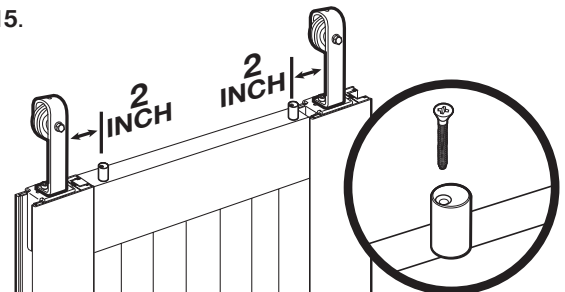

Figure 15
Once the Roller brackets have been secured and the finishing strips in place, it is important to install the Safety spacers (W). These spacers help to protect the door from being bumped off of the track. With the door laying flat in a safe and secure position, place one of the two spacers approximately 2" to the inside of one of the roller brackets. Place slightly off center towards the front of the door. Using a drill, secure the spacer with the screw provided. Repeat steps to install the second spacer inside the other roller bracket. See Figure 15.
See Figure 15.